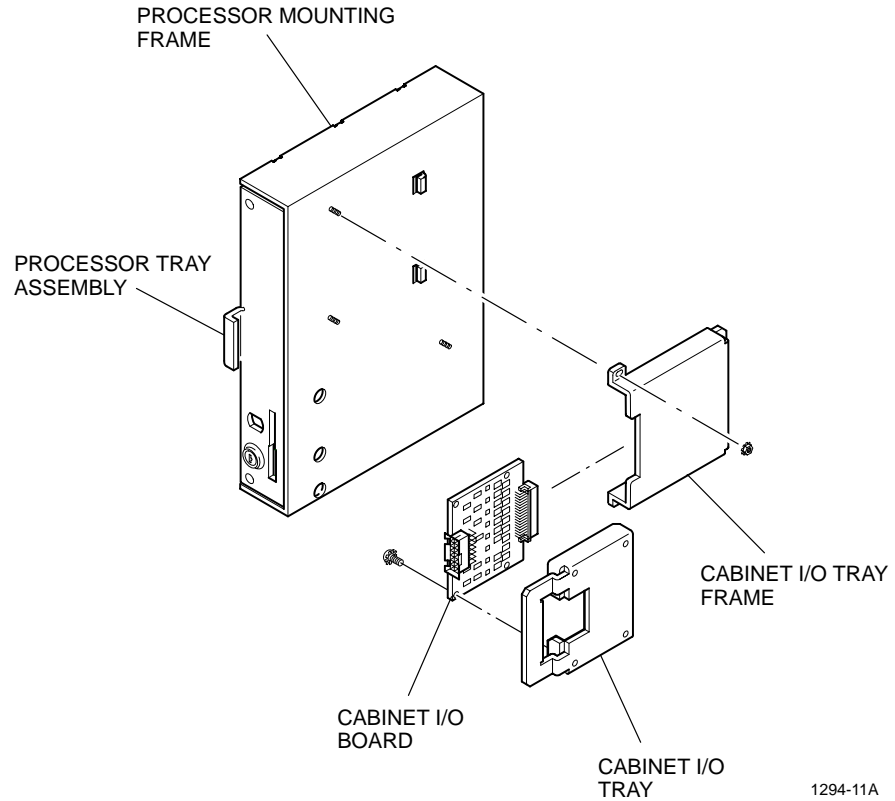

Figure 11-3. Cabinet I/O Tray Components.
6. **To remove the cabinet I/O mounting bracket from the processor frame:** Remove the two nuts at the front edge of the bracket attaching it to the processor frame. Lift the front edge of the bracket off of the threaded mounting studs, then pull the bracket straight out from the machine. (See Figure 11-3.)